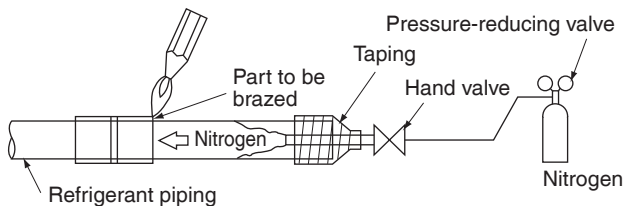

Fig. 14
- Set nitrogen pressure to about 2.9 psi (0.02 Mpa) with a pressure-reducing valve if brazing while inserting nitrogen into the piping. (Refer to Fig. 14)